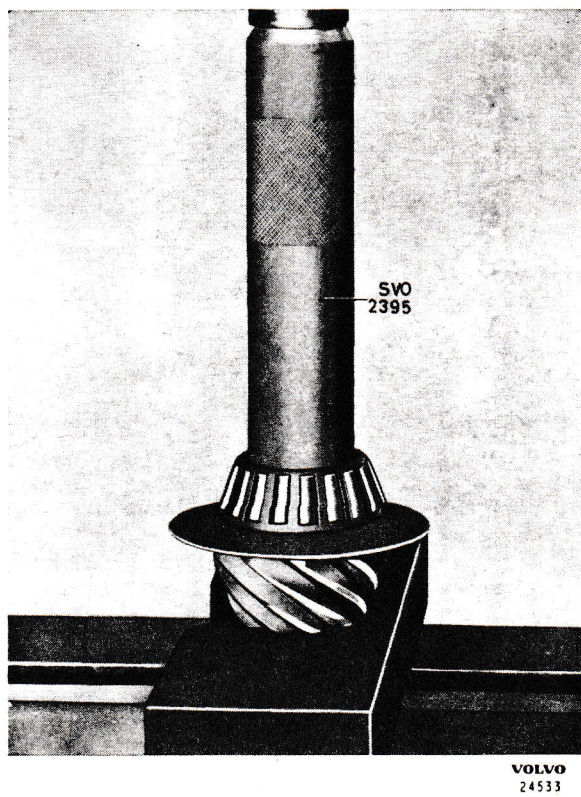

Fig. 20. Fitting the rear pinion bearing.
(28). Press on the rear bearing (29) with tool SVO 2395, see Fig. 20.